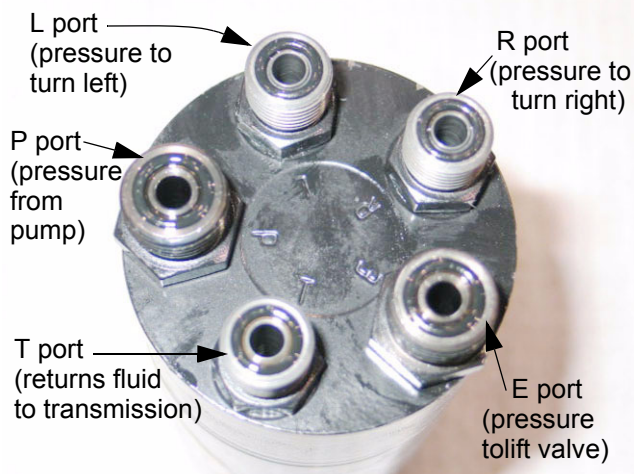

Figure 1.13
- 1.13. Under pressure from the auxiliary pump the fluid goes to the hydrostatic drive and to the "P" port on the steering unit. See Figure 1.13.